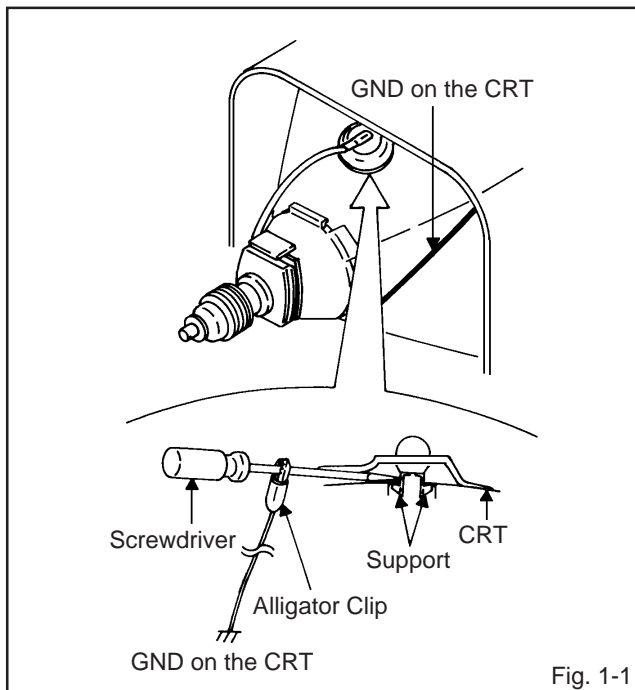

Fig. 1-1
1. Follow the steps as follows to discharge the Anode Cap. **(Refer to Fig. 1-1.)**
1. In the condition of NO indication on the screen. Press the VOL. DOWN button on the set and the Channel button (9) on the remote control for more than 1 second to appear the adjustment mode on the screen as shown in Fig. 1-1.
3. Activate the adjustment mode display of Fig. 1-1 and press the channel button (02) on the remote control to select "RF AGC DELAY".